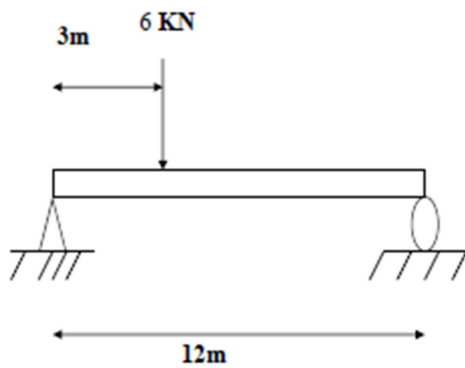

Fig 5
e) Draw shear force and bending moment diagrams for the simply supported beam in fig 5